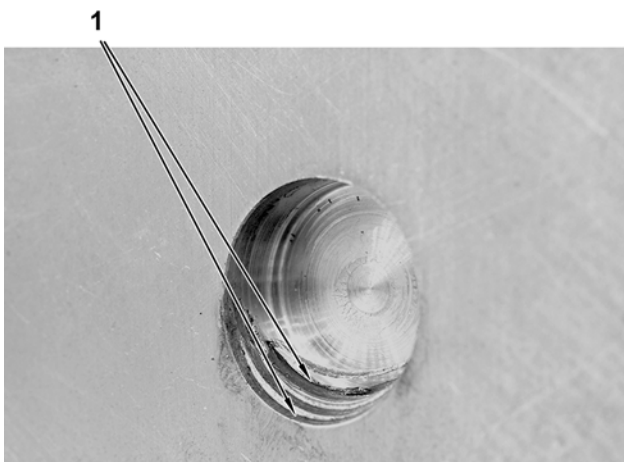
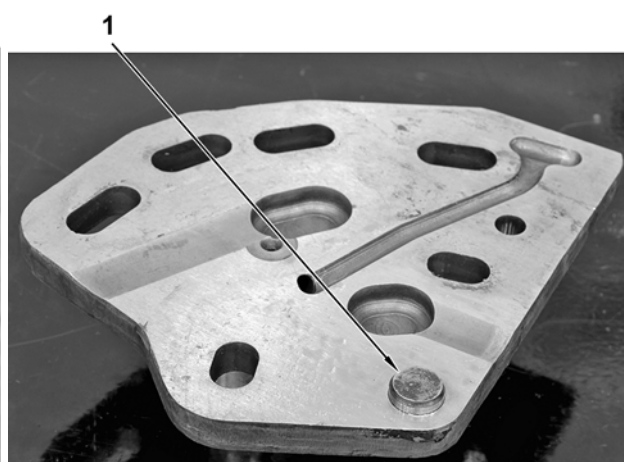

Figure 7 Adjustable Idler Pilot Hole
Figure 8 Adjustable Idler Support
14. Inspect front plate for damage in adjustable idler pivot dowel hole. Damage will be evidenced by metal distorted or sheared around edge of hole, resulting in an enlarged and out-of-round condition and loss of exact position control for pilot (Figure 7, Item 1 and Figure 8, Item 1).